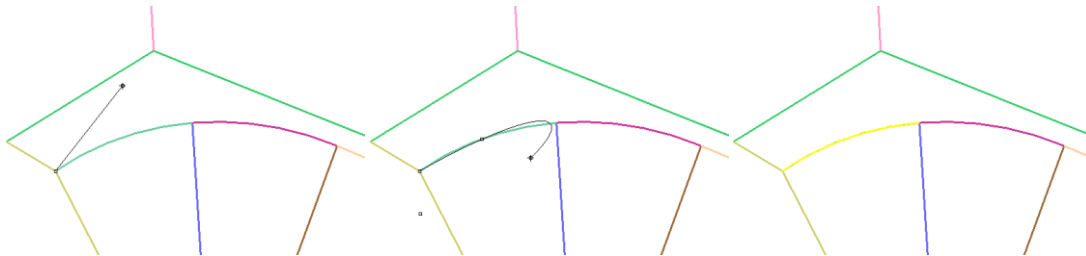

Figure 62: Building the upper curve
2. Select **Curve|Arc|Start, Point, End** and **Zoom in** around the curved area and click on the left end of the left upper eight-circle (Figure 62, left) to set the **Start of arc**. Note that a bubble saying **End, Int, Knot** appears momentarily near the corner vertex, before you click on it.
3. **Following** along the same curve, click on a **second** vertex somewhere near the middle of the curve (Figure 62, center). This sets the 2d point of the arc. For the **End** point of the arc, click on the **vertex** at the upper T junction to finish the arc highlighted in Figure 62, right.